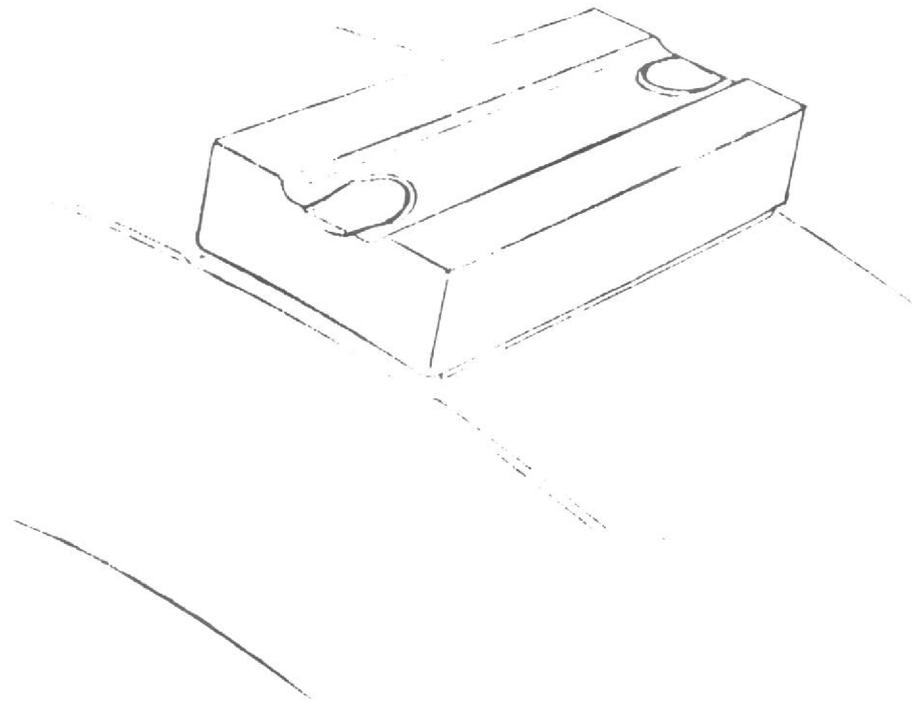

Fig. 1 Scrap View Showing Brinelling
b. (1) Remove the main wheel in accordance with AP2337 Vo.1. Section 1, Chapter 1, Relevant appendix, if not already removed.
(2) Refer to Fig.1 originally issued with SI/Hunter/106, and examine the outer friction plate tenons of the brake unit for indentations.